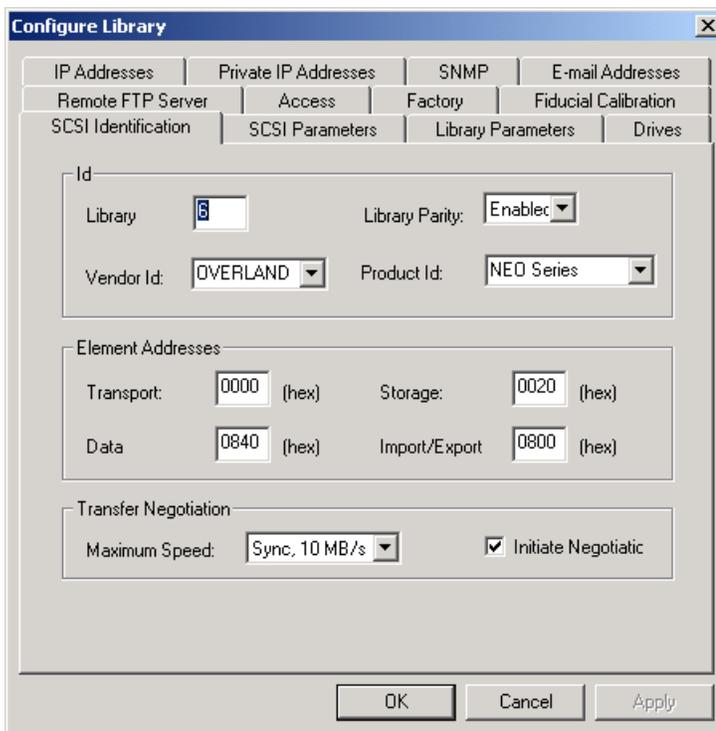

Figure 7-6: Configure Library Dialog Box—SCSI Identification Tab
1. Click the **SCSI Identification** tab to bring it to the front (Figure 7-6).